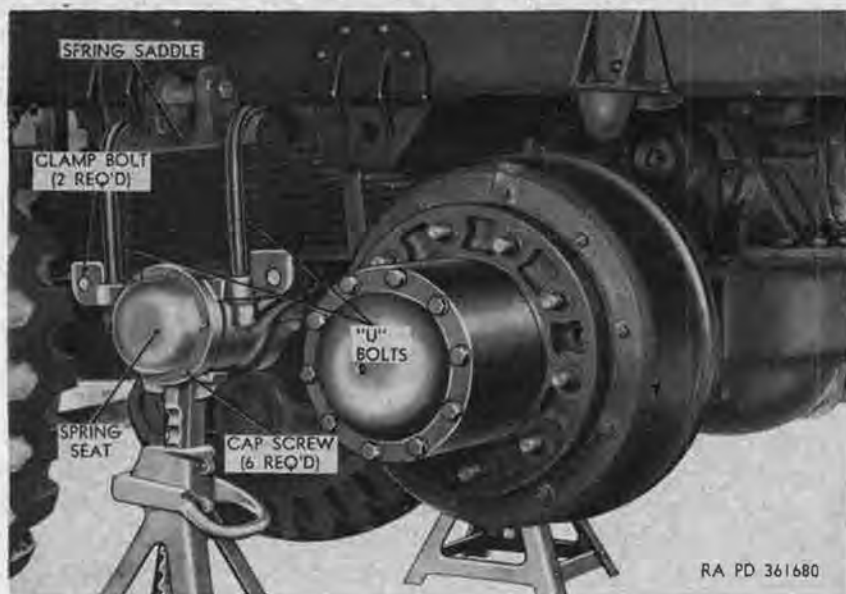
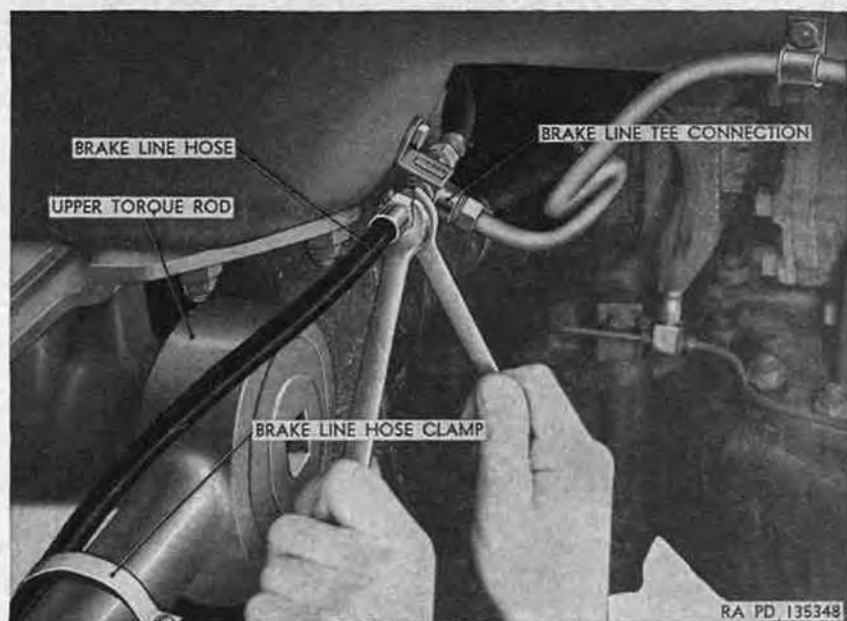
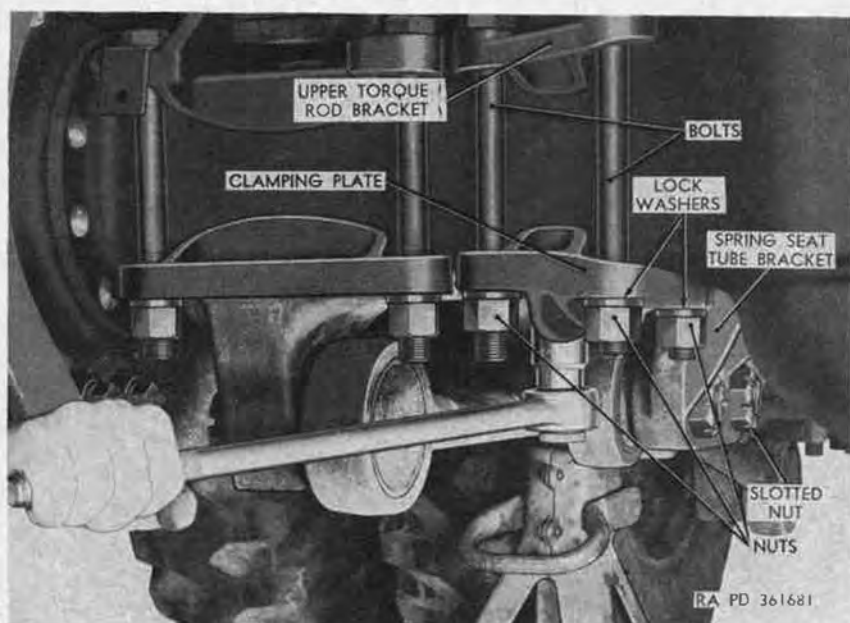
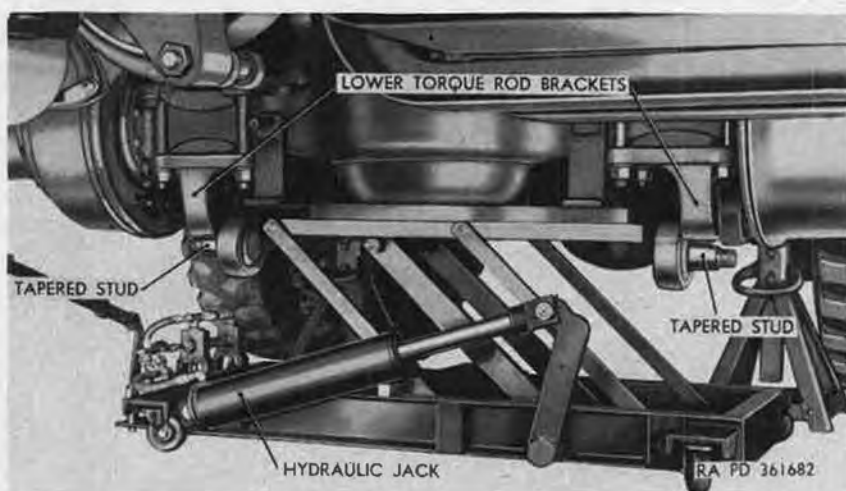

Figure 230. Rear suspension assembly raised for axle removal.
Figure 231. Disconnecting hydraulic brake line hose.
Figure 232. Disconnecting upper torque rod.
Figure 234. Lower torque rods disconnected.
- of truck and place a support stand under each spring seat (fig. 230).
- (2) *Remove wheel and tire assemblies.* Remove wheel and tire assemblies from both ends of axle assembly to be removed (par. 241).
- (3) *Disconnect brake line* (fig. 231). Unscrew connector securing brake line hose to tee connection at frame rear suspension cross member, and remove line from tee. Remove brake-line-hose clamps from upper torque rod, and remove hose from rod.
- (4) *Disconnect propeller shafts.* Disconnect adapter flange on rear end of transfer-to-forward-rear-axle propeller shaft from companion flange at front of forward-rear-axle differential (par. 211c). Disconnect adapter flange on front end of forward-rear-axle-to-rear-rear-axle propeller shaft from companion flange on rear of forward-rear-axle differential.
- (5) *Disconnect upper torque rod* (fig. 232). Remove four nuts and lockwashers from four bolts securing upper torque rod bracket and clamping plate to right end of axle housing. Remove the clamping plate from underside of axle housing, and remove the two front bolts and the right rear bolt from the torque rod bracket.
- (7) *Disconnect lower torque rods* (fig. 234). Remove cotter pin and slotted nut securing front end of lower torque rod to bracket at underside of right end of axle housing. Rap bracket sharply to loosen tapered stud in torque rod bracket and, using a bar, pry torque rod from bracket. Repeat above operation to remove left torque rod from bracket on underside of left end of axle housing.
- (8) *Position hydraulic jack.* Position hydraulic jack (fig. 99) with axle fixture under the forward rear axle (fig. 234), raise axle on hydraulic jack enough to release front ends of rear springs (fig. 228) in spring guide brackets, and roll axle on hydraulic jack toward front of truck.
(fig. 232) and the right rear bolt in torque-rod-bracket holes, install clamping plate on bolts from underside of axle housing, and install four lockwashers and nuts of the four bracket mounting bolts. Tighten nuts.
- (3) *Install lower torque rods* (fig. 234). Insert tapered stud at front end of lower right torque rod through torque rod bracket on underside of axle housing, install slotted nut on stud, and tighten nut to ~~500~~ ⁴⁵⁰ to ~~400~~ ⁴²⁰ pound-feet torque. Install cotter pin in end of stud. Repeat above operations to connect lower left torque rod to bracket on underside of left end of axle housing.
- (4) *Connect propeller shafts*. Connect adapter flange on rear end of transfer-to-forward-rear-axle propeller shaft to companion flange at front of forward-rear-axle differential (par. 211d). Connect adapter flange of front end of forward-rear-axle-to-rear-rear-axle propeller shaft to companion flange on rear of forward-rear-axle differential.
- (5) *Connect brake line* (fig. 231). Position brake line at tee connection on frame rear suspension cross member, and tighten connector. Position brake hose on upper torque rod and install two clamps.
- (6) *Bleed brakes*. Bleed rear wheel brakes (par. 221).
- (7) *Install wheel and tire assemblies*. Refer to paragraph 241.
- (8) *Lubricate*. Lubricate axle assembly and propeller shaft universal joints (par. 67).
- (9) *Lower rear suspension assembly*. Raise rear end of truck, remove support stand under each spring seat (fig. 230), and lower rear end of truck.
- (10) *Record of replacement*. Record the replacement on DR Form 478.